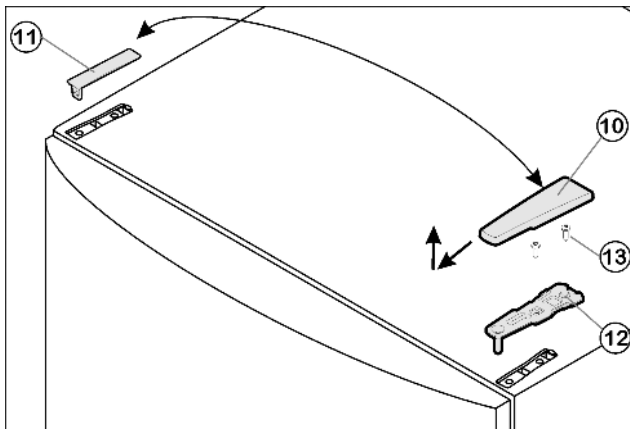

Fig. 4
- ▶ Pull off the cover Fig. 4 (10) forwards and upwards.
- ▶ Lift off the cover Fig. 4 (11).
- ▶ Unscrew the upper turn hinge Fig. 4 (12) (2x Torx® 25) Fig. 4 (13) and lift it off.
- ▶ Insert the upper turn hinge Fig. 4 (12) in the door on the new hinge side.
- ▶ Screw the upper turn hinge Fig. 4 (12) firmly into place (with 4 Nm) (2x Torx® 25) Fig. 4 (13). Possibly make preliminary holes with a bradawl or use a cordless screwdriver.
- ▶ Snap the cover Fig. 4 (10) and cover Fig. 4 (11) into place at the opposite side.